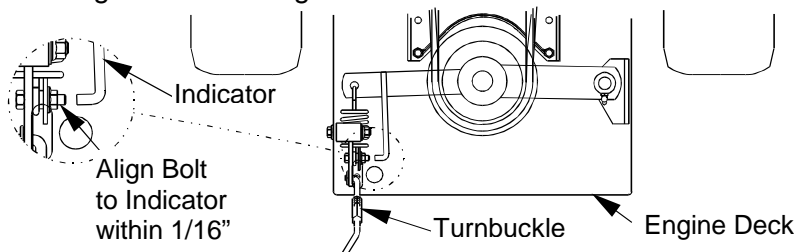

FIG. 14
- b) With blade drive engaged, adjust the linkage length by loosening the locknut on the turnbuckle and adjusting the turnbuckle so that the bolt on the bellcrank and the indicator arm align with each other within 1/16". See Figure 14. Tighten locknut against turnbuckle.